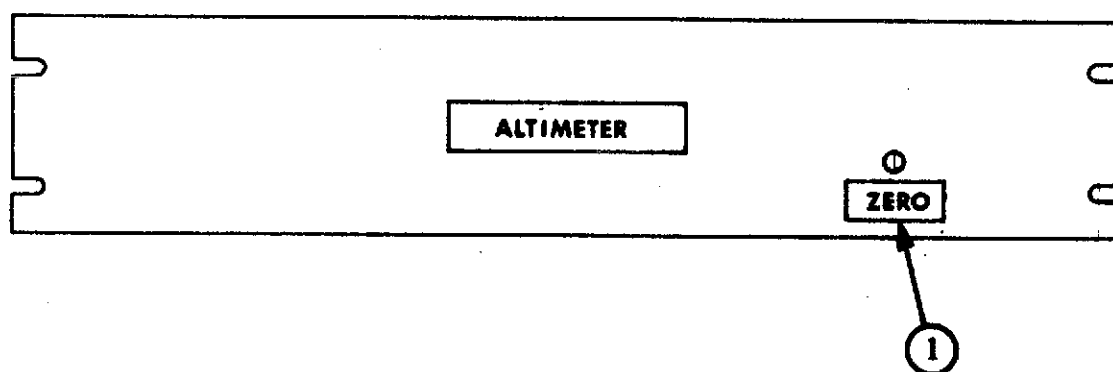

Figure 2-7. Altimeter Panel
2.8 ALTIMETER PANEL (FIGURE 2-7)